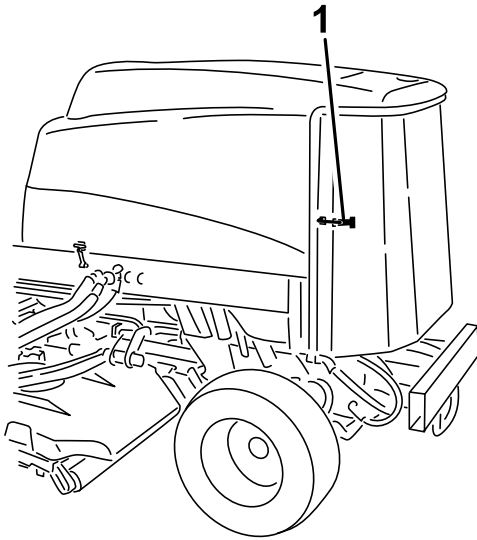

Figure 90
2. Unlatch and swing open the rear screen (Figure 90).